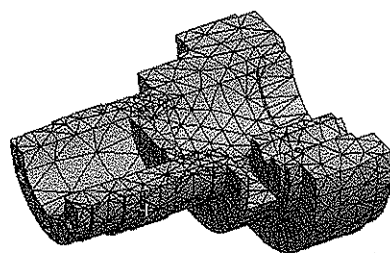

Figure 7-85 Mesh generated on the sectioned model
- 3. In the Tree Outline, right-click on **Mesh**; a shortcut menu is displayed. Choose the **Update** option from it to generate the mesh with default settings; the mesh is generated on the sectioned model, as shown in Figure 7-85.
If all the imperfections or minute details are removed, the element count in your system will display 5572. However, if your model is not optimized accurately like the model shown in Figure 7-85, the element count may vary in your case.